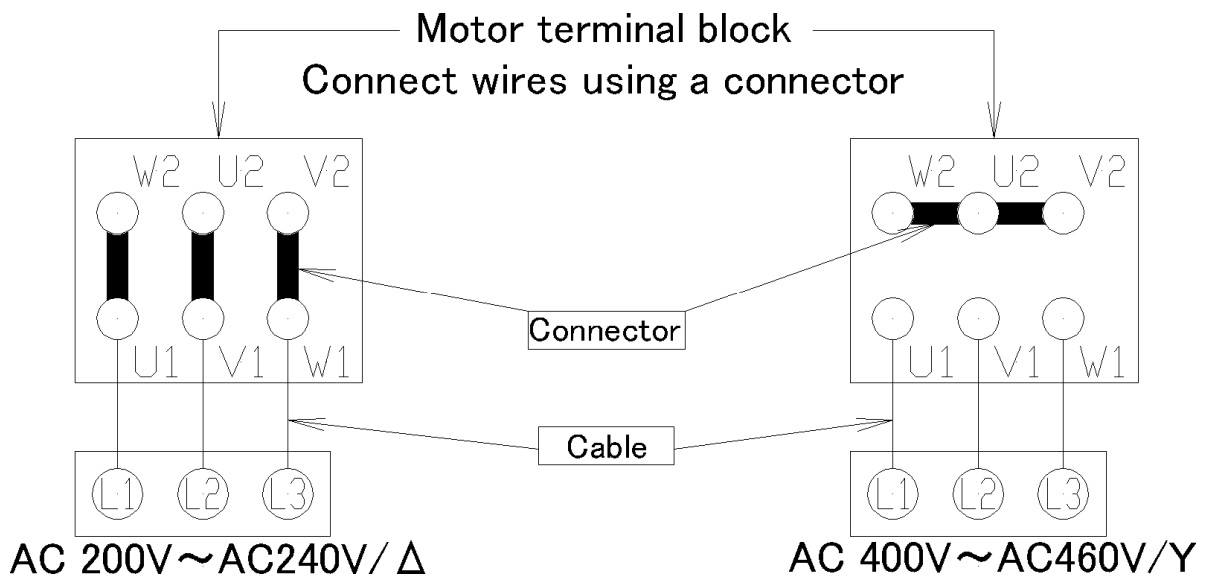
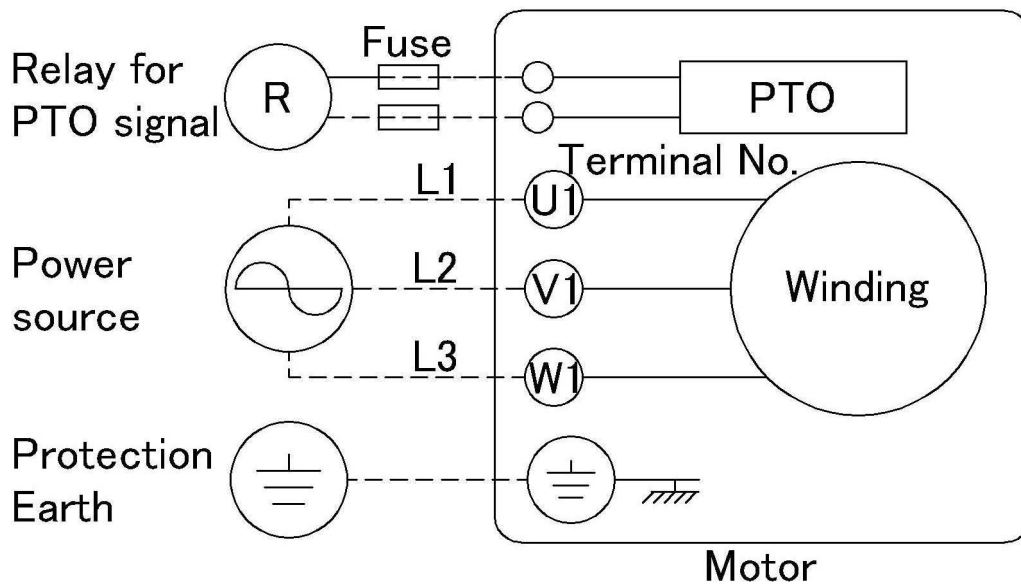

Fig. 6 Terminal box internal wiring diagram
Fig. 7 Electrical wiring diagram
Conduct the electrical connection referring to the “Fig. 6 and Fig. 7”.
Connect the temperature sensor (PTO) as shown in Fig. 7. The specifications of the temperature sensor are shown in Table 3.
- 3) Checking the rotating direction (Refer to “3.5 Electrical Connection”) Close the vacuum valve on the Inlet side, open the vent valve, and run the pump for two to three seconds to check the rotating direction of the motor. If the motor is rotating in the correct direction (Counterclockwise as viewed from the motor side), pressure will lower. If it is reversed, interchange two of the three wires shown in Fig. 6 and fig.7.
- 4) After checking (1), (2) and (3) above, close the vent valve and run the pump. Here, ensure that the vacuum gauge between the vacuum valve and the pump indicates a pressure close to the ultimate pressure.